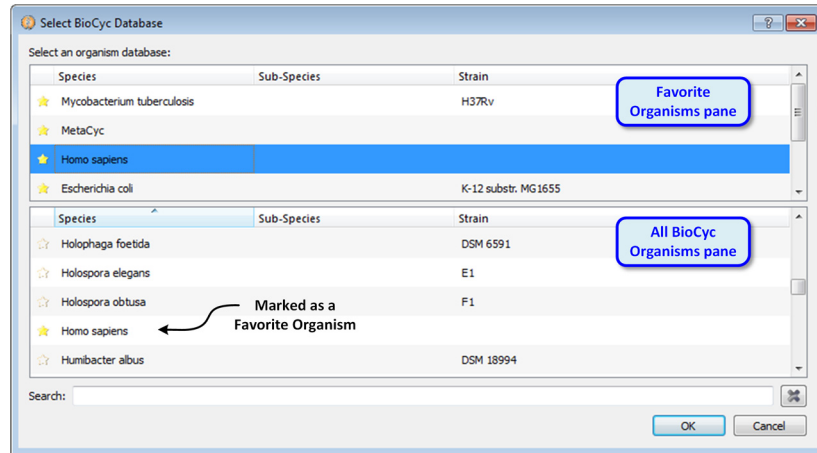

Figure 65 Select BioCyc Database dialog box
- Click **Homo sapiens** for your search organism in the **Select BioCyc Database** dialog box (Figure 65 on page 74). The upper pane lists your *favorite organisms* and the lower pane lists *all BioCyc organisms*; you can mark and clear your favorite organisms from the lower pane.